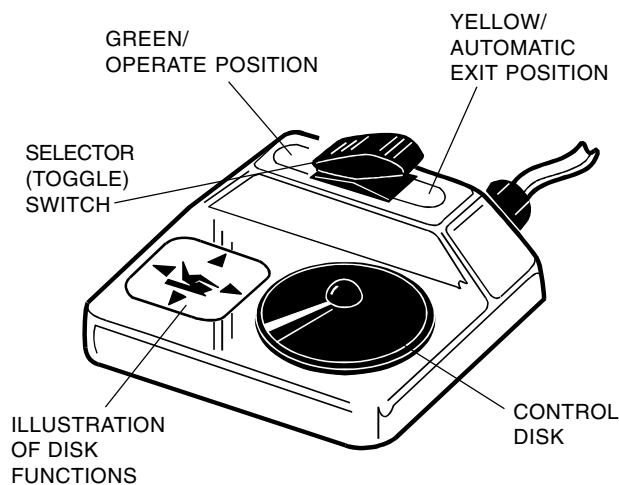

**Figure 15**
The foot control (See Figure 15), consisting of a selector (toggle) switch and a control disk, is operated as follows:
1. Actuate and hold the control disk to the desired quadrant (See Figure 15). For example, sliding the disk to the left will actuate the back-down position.